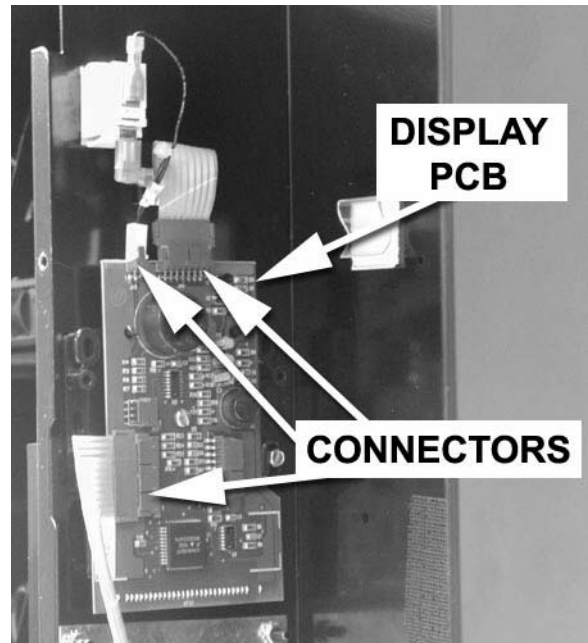

Figure 12
1. Make a note of the locations of all harnesses going to the display PCB. Remove the harnesses (figure 12).